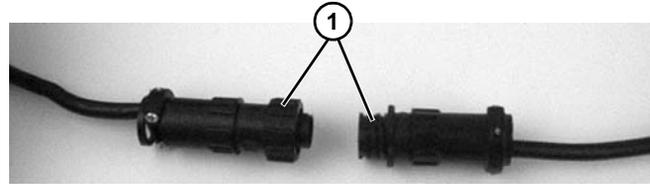

Figure 27
3. For DC variable speed motor, unplug motor cord at disconnect (Figure 27, item 1).